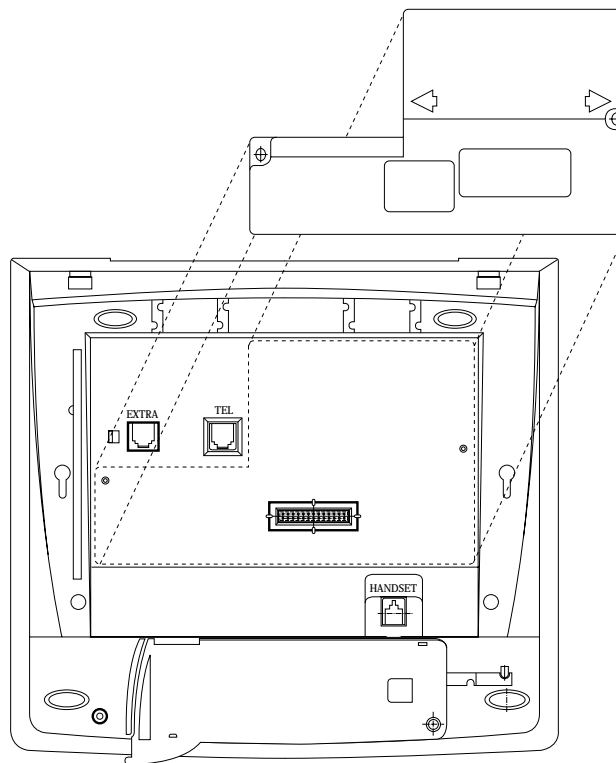

FIGURE 8-4 BOTTOM OF KTS (Euro KTS)
4. Mount module KDB-S. (See Figure 8-4)
4. Mount module KDB-D. (See Figure 8-4)